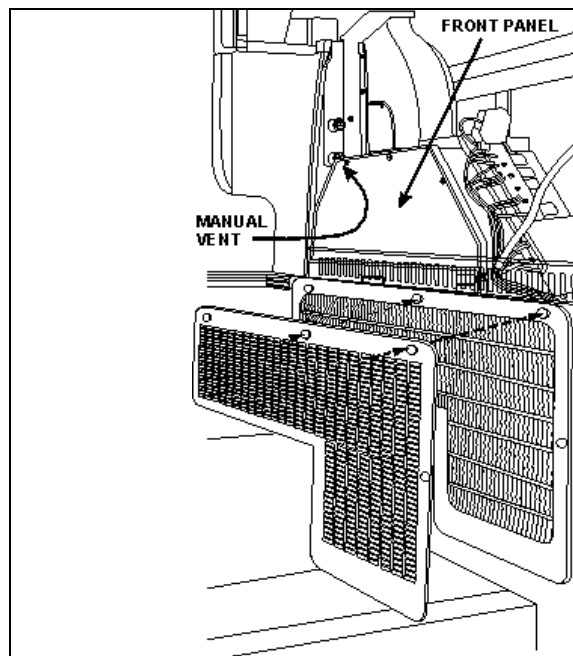

FIGURE 50: DRIVER'S HVAC UNIT
4. From inside of vehicle, remove the two finishing panels in front of unit. Remove the three screws fixing the unit front panel. Open the manual vent located inside the HVAC unit, on the driver's side (Fig. 50) to ensure an efficient draining.
Whenever the heating system has been drained and refilled, or the system has run low on coolant and coolant has been added, it is necessary to bleed air from heating system. Locate the manual vent illustrated in Figure 50, and open momentarily until no air escapes from the line.